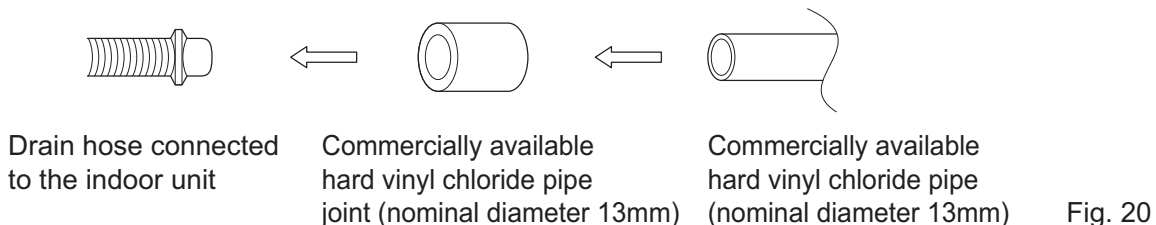

Fig. 20
- When directly connecting a hard vinyl chloride pipe joint (nominal diameter 13mm) to the drain hose connected to the indoor unit (i.e. for embedded piping, etc.), use a commercially available hard vinyl chloride pipe joint (nominal diameter 13mm). (Refer to Fig. 20)